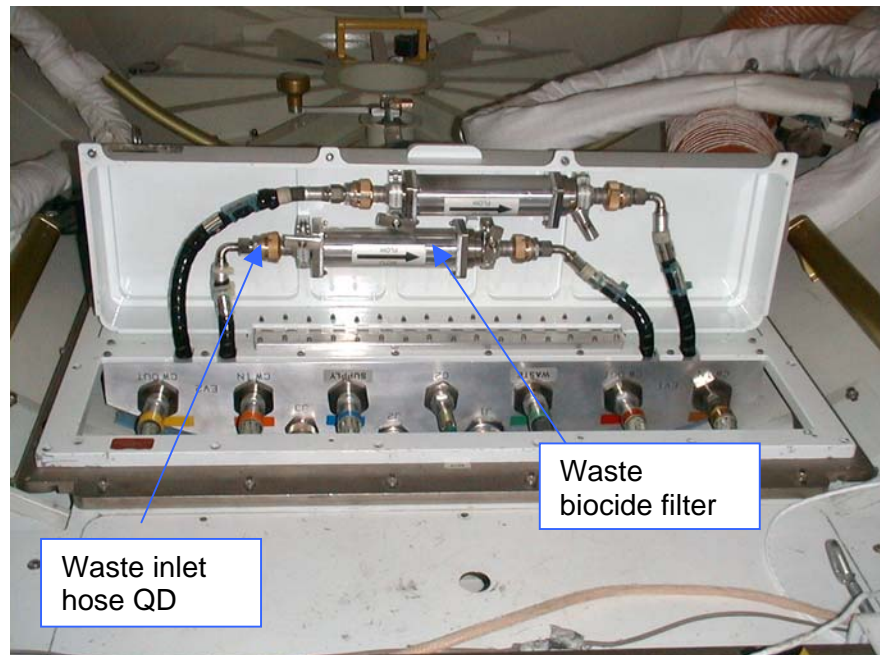

Figure 1.- UJA Filters and Hoses.
2. Refer to Figure 1 for UJA Waste biocide filter location and attachment configuration.